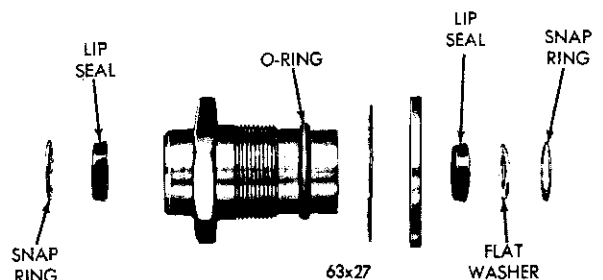

Fig. 43—Piston Guide Nut Assembly
(1) In the counterbore in the front (small) end of the bushing, install a new lip seal, with the lip out, and a Truarc snap ring. (Refer to Fig. 43).
(2) Install the lock washer, the thick spacer washer and a new "O" ring on the outside of the bushing.
(3) In the counterbore in the rear (large) end of the bushing install a new lip seal, with the lip in, the flat washer and the Truarc snap ring.
(4) Install a new rubber washer in the bore of the slave cylinder end cap and a new copper washer over the threaded end of the cap against the hex.
(5) Install the end cap assembly, tightening it securely. Install the tube elbow in the end cap, and the two bleeder screws in the slave cylinder housing.
(6) If the original control valve is to be used again, install a new lip seal in the outer groove of the piston spool. Install a new control valve diaphragm over the